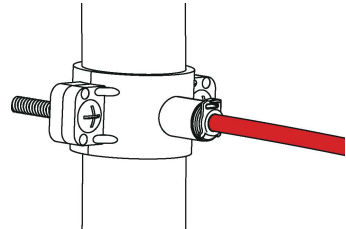

Figure 8
3. Fix the drain saddle with screws and install the lock clip on the fitting to secure the connection (Figure 8);